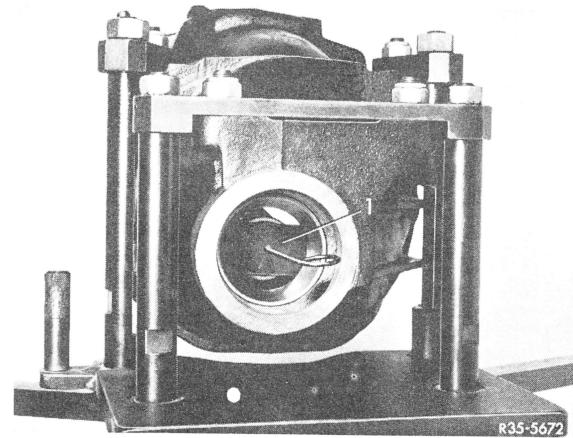

Fig. 6
**7** Force outside tapered roller bearing outer race out of rear axle housing with pushing member (Fig. 6).